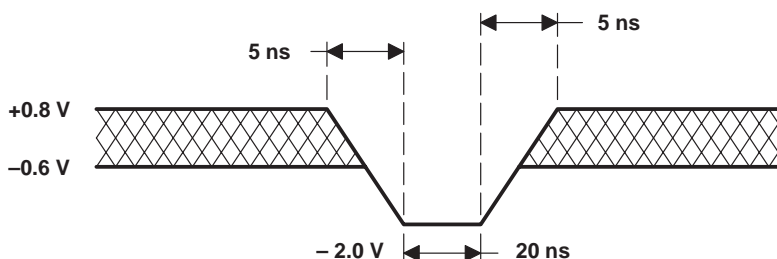

Figure 8. Maximum Negative Overshoot Waveform
5. The voltage on any input or output can undershoot to – 2 V for periods less than 20 ns. See Figure 8.